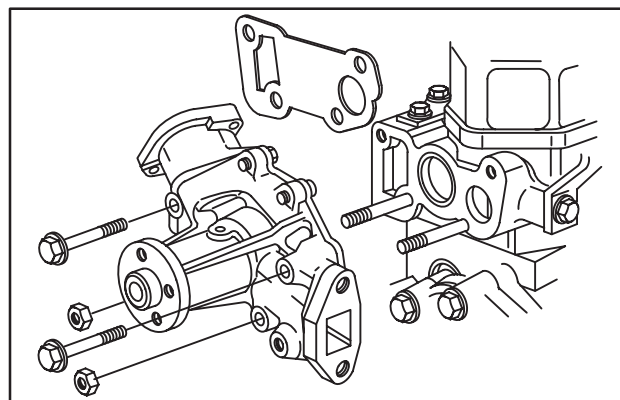

Fig. 36 – Install Water Pump
9. Install water pump with new gasket, Fig. 36.